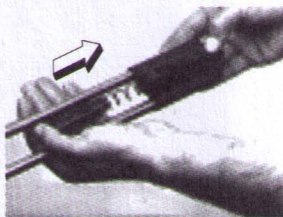

Fig. 33
- Insert the bolt (with adaptor sleeve, bolt spring, and bolt spring sleeve correctly attached) into the bolt carrier. Make sure the control bolt is free to move (Fig.33).